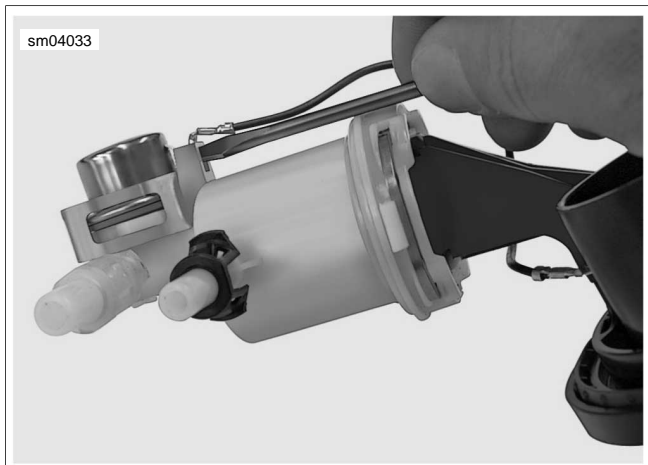

Figure 4-14. Remove Ground Wire Spade Terminal From Fuel Filter Shell
2. See Figure 4-14. Remove ground wire spade terminal from slot of fuel filter shell.